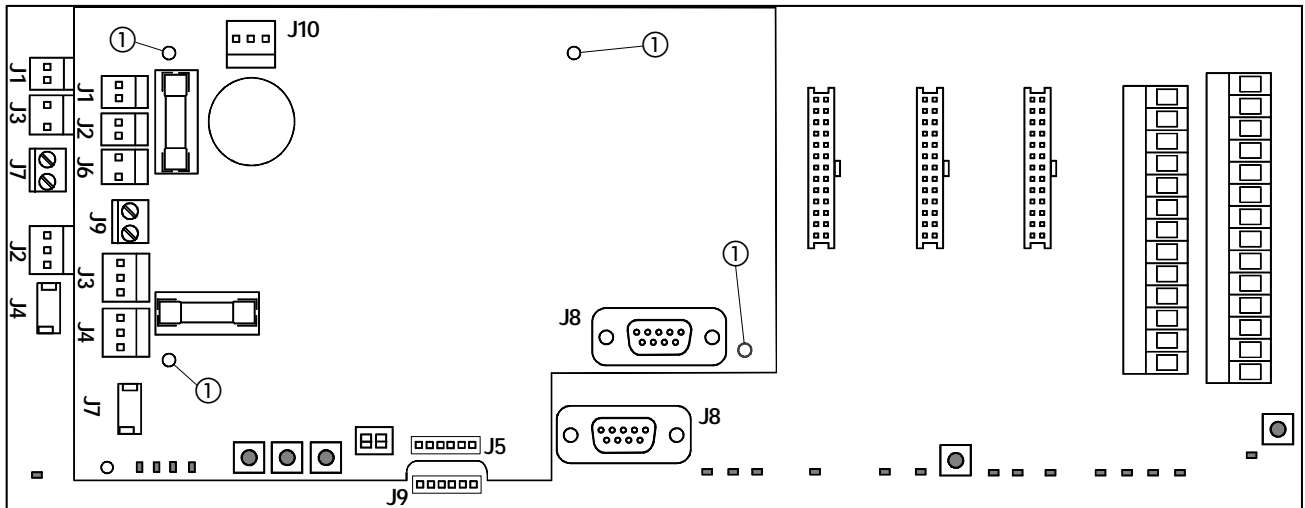

fig.1
The assembled 940 twin-motor doors are supplied with pre-wired second-motor board. For Kit doors, fit the second board using the spacers provided and positioning them on the 940SDM board to correspond to the holes as shown in fig. 1 rif. ①. Wire up the two units using the cables provided and following the diagram in fig. 2.